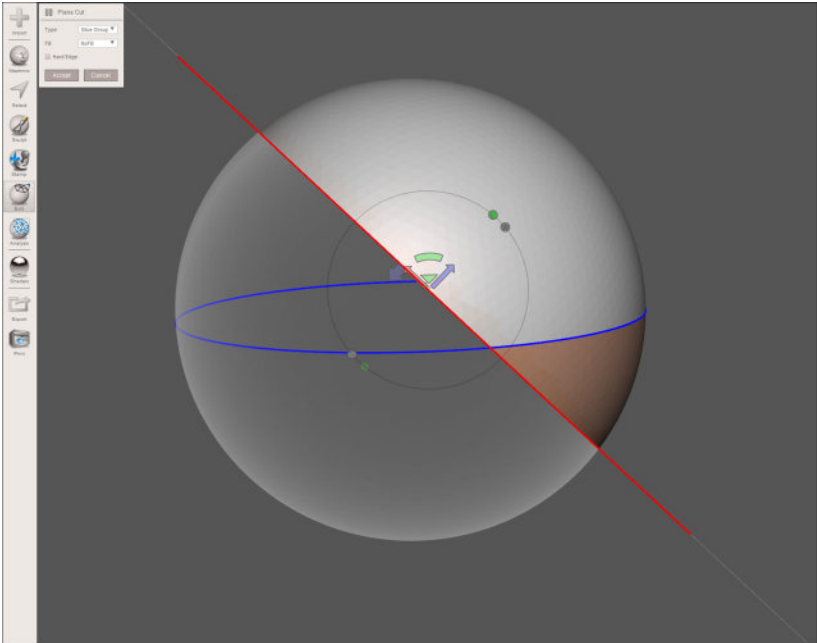

Figure 10-16. Using the manipulator widget in the center to move the cutting plane in a new direction
5. Choose the same options as before: Slice Groups and NoFill. You did this before, but this time either click and drag a line with your left mouse button in another direction, or click the various arrows and bars on the “manipulator widget” in the center to move the cutting plane to a new direction as shown in Figure 10-16.